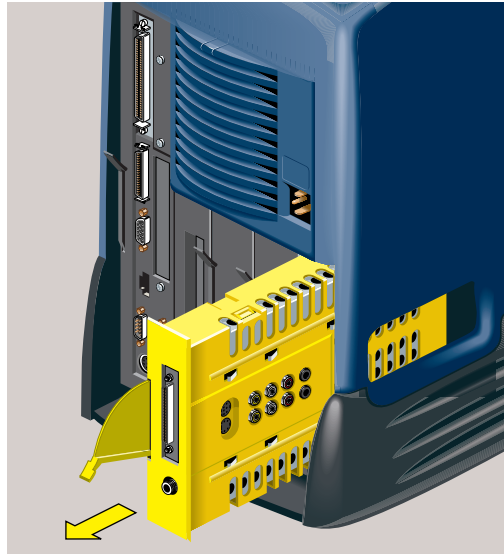

Figure 5-30 Removing the Audio-Visual Module From the Chassis
4. Pull the audio-visual module out of the chassis (Figure 5-30).